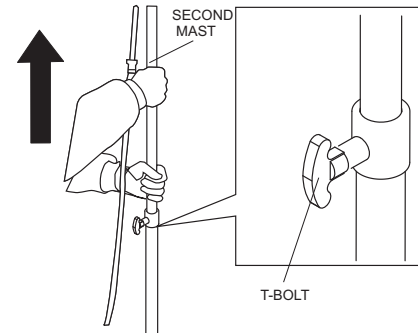

Figure 25. Lowering Second Mast
1. Loosen the T-bolt holding the second mast and push mast all the way down. Tighten T-bolt securely. See Figure 25.